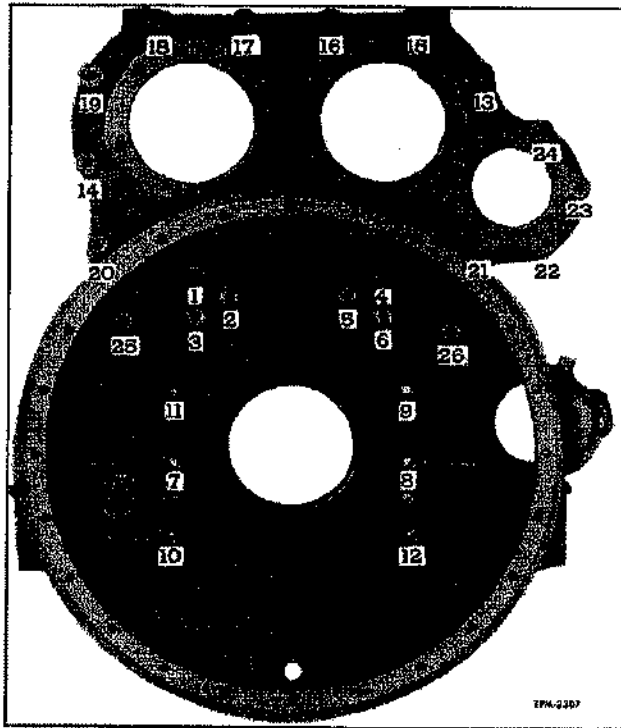
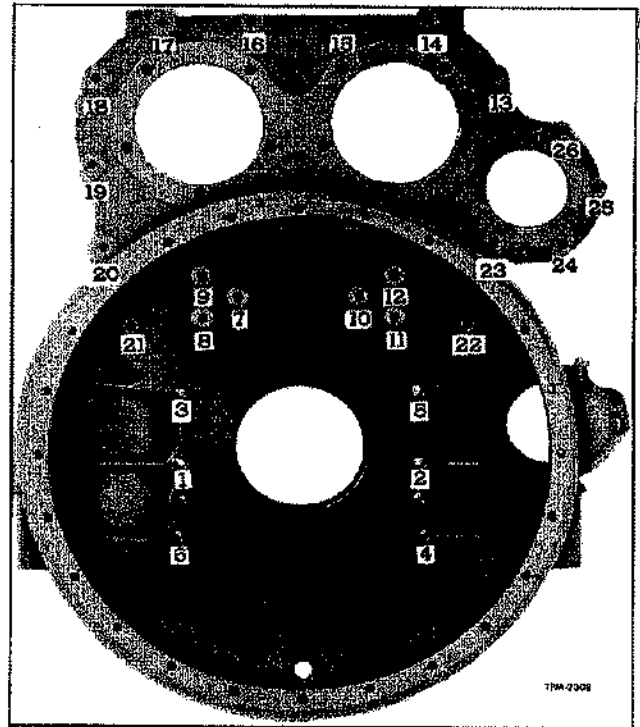

Figure 28—Flywheel Housing Initial Tightening
Figure 29—Flywheel Housing Final Tightening
3. The cap screws and bolts should first be tightened finger tight, then drawn down in the order shown in figure 28 until they are snug, finally tighten to recommended torque in sequence illustrated in figure 29. Be especially careful that cap screws numbered 1 through 6 (fig. 29) are tight since an oil leak at this point would necessitate complete disassembly to correct.